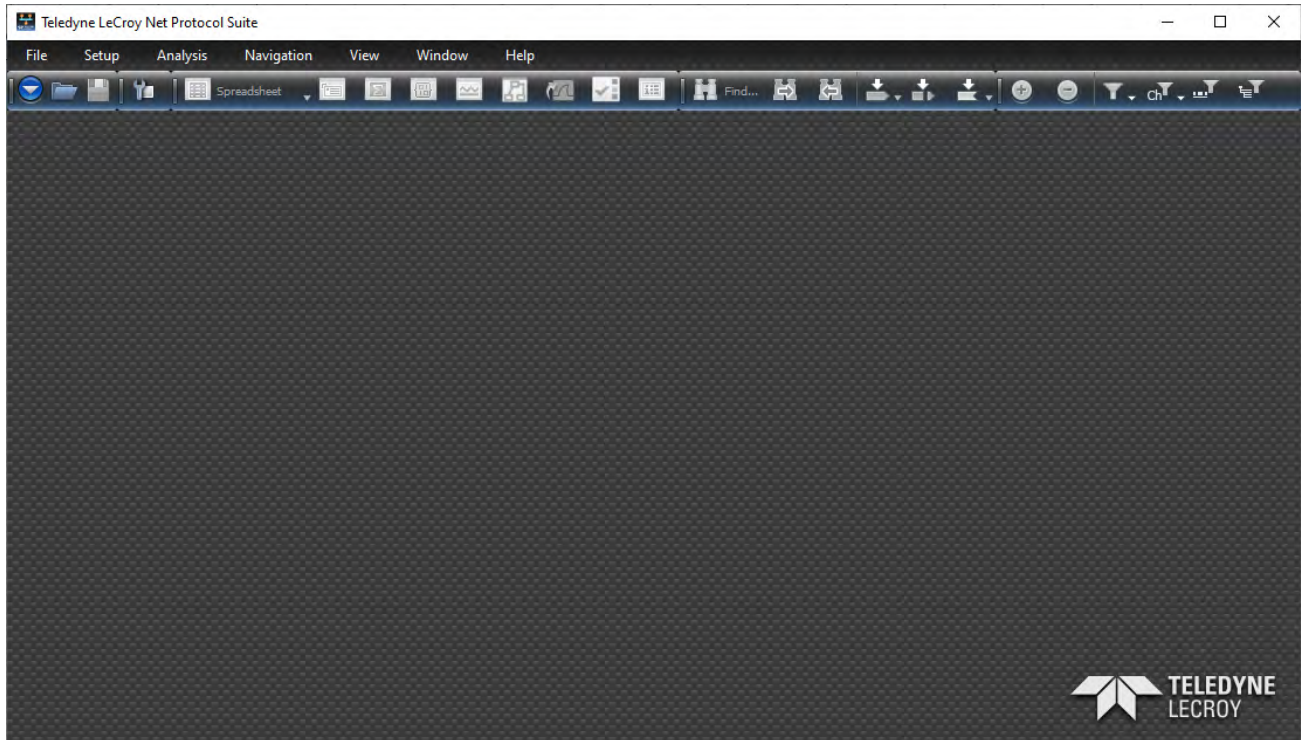

Figure 9.1: Net Protocol Suite Main Screen
1. Launch the Net Protocol Suite software (Figure 9.1).